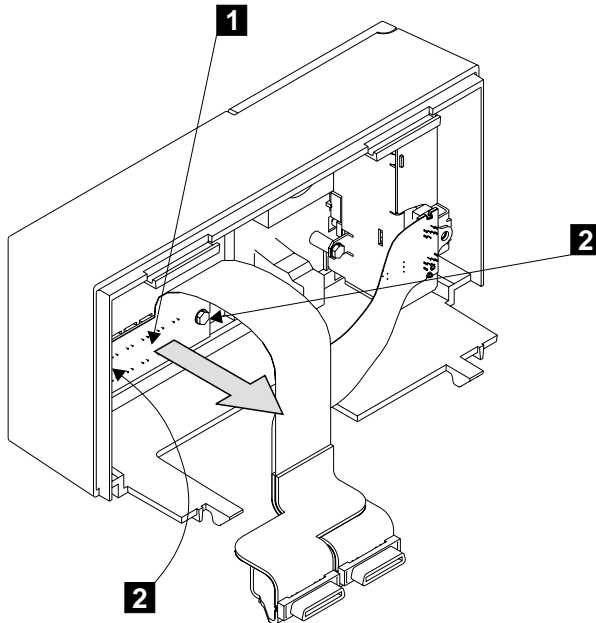

Figure 114. Removing the Disk Drive Status Lights Assembly from a Model T40
- Step 3. Refer to Figure 114.